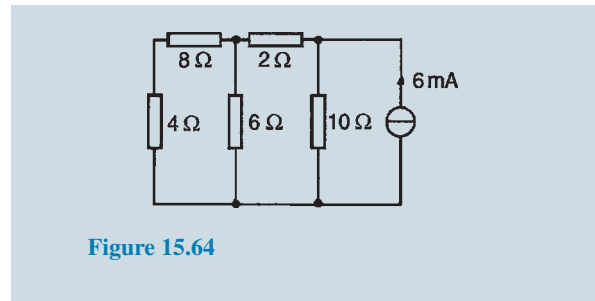

Figure 15.64
- Determine the current flowing in the 6Ω resistance of the network shown in Fig. 15.64 by using Norton's theorem.